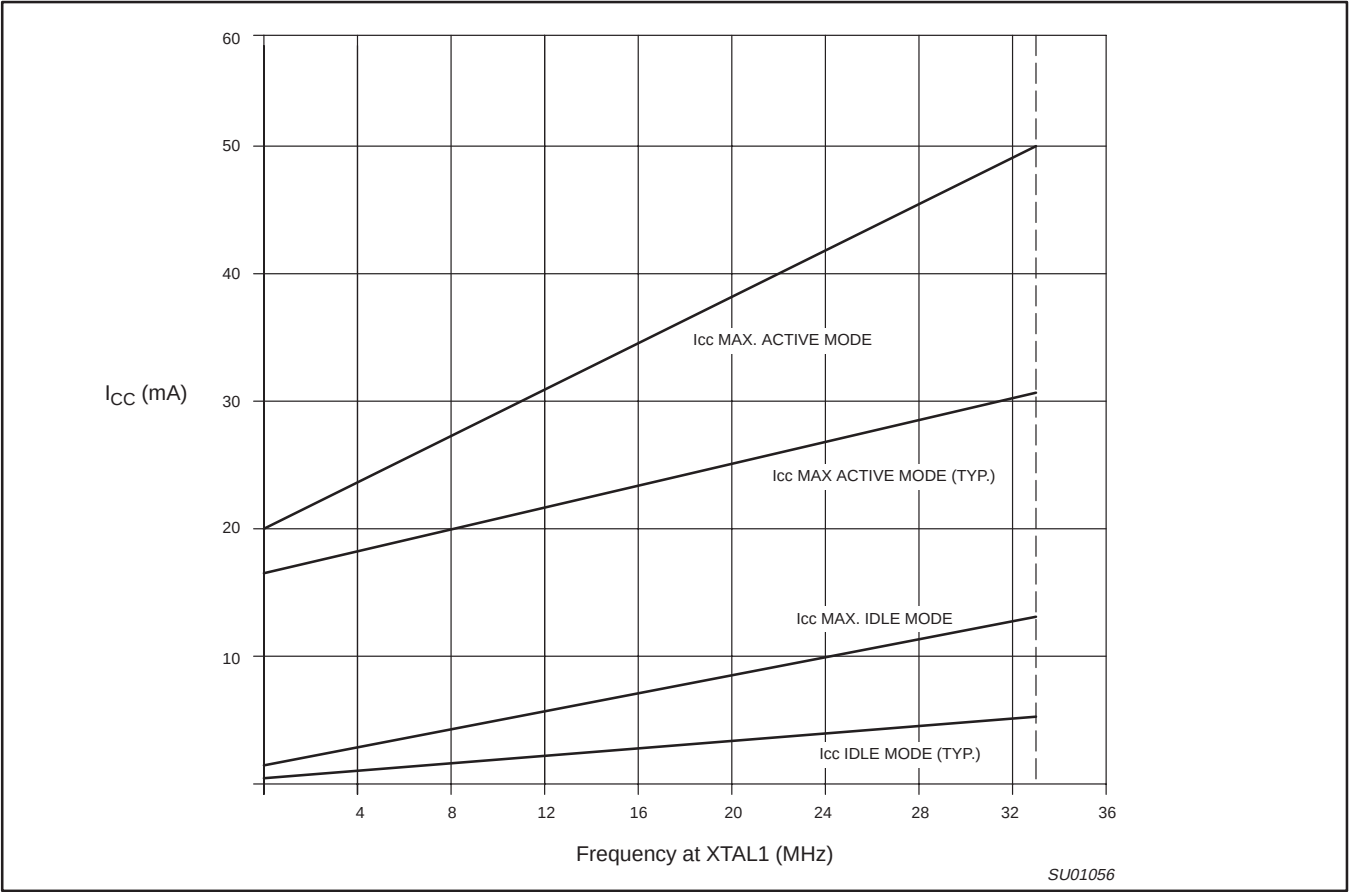
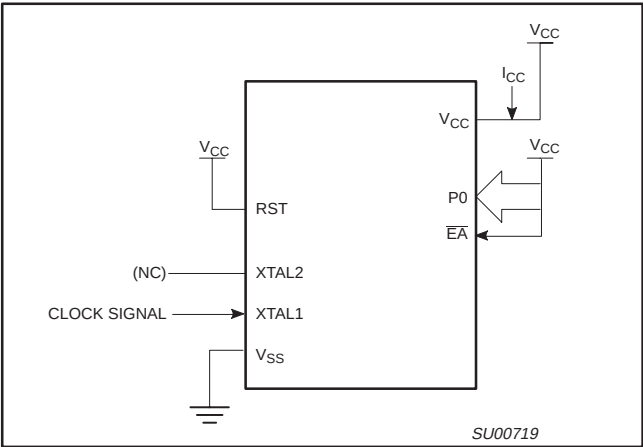

Figure 21. I_{CC} vs. FREQ
Figure 22. I_{CC} Test Condition, Active Mode
- See Figures 22 through 25 for I_{CC} test conditions and Figure 21 for I_{CC} vs Freq.